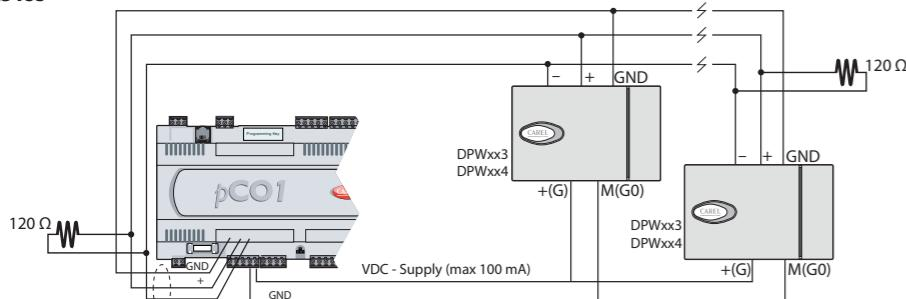

Fig 4
Fig. 6 shows the diagrams for the connections with direct or optically-isolated serial output. Figure 4 shows a typical wiring connection diagram with a CAREL pCO family controller.
-Use terminal resistors as shown in Figure 4